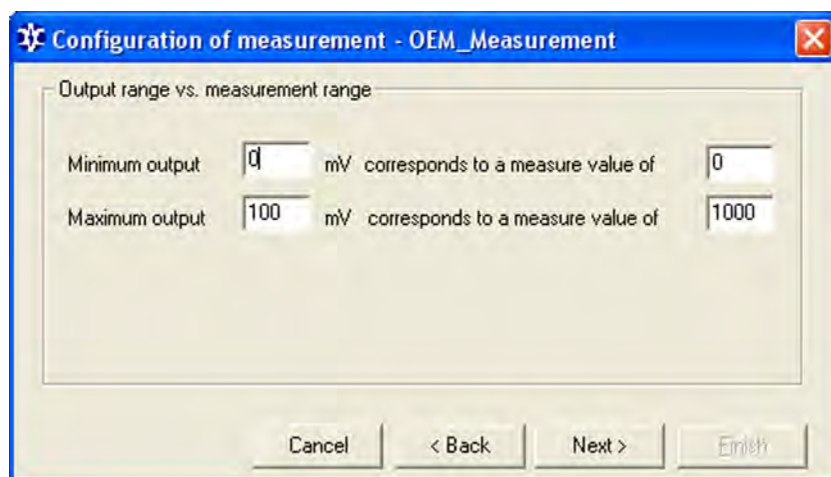

Figure 74 Converting Parameter Setup
4. Click **Next** to open the conversion parameter setup window presented in Figure 74 on page 155.